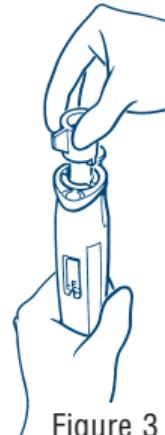

Figure 3
***Adjustment of the factory calibration must only be performed using a special calibration key (Figures 3 and 5G).***
To adjust the volume setting to compensate for a specific density or viscosity, slide the key over the push-button until notches fit into the grooves in the calibration sleeve (Figure 3), then turn the key: